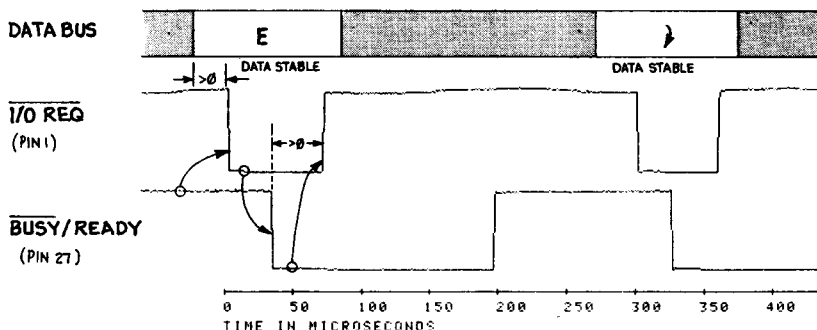

Figure 7.3 I/O REQ and BUSY/RDY timing diagram.
Note that above each I/O REQ strobe, the ASCII character being transferred is shown on the bus. There are eleven characters transferred to the CY525 in approximately 3300 microseconds. As may be seen the spacing is very regular, therefore the transfer time per character is about 300 microseconds. These times are for an 11 MHz crystal and should be scaled by $f/11$ for a crystal of frequency f . If we expand the timing diagram above and look at the first transfer only, we see that the CY525 actually completes the transfer of the character (E) and returns to the READY state within 200 microseconds. The extra 100 microseconds before the I/O REQ is pulled low (to signal the $\downarrow$ on the bus) is actually delay caused by the master computer used in this example. If a faster computer were used, this could be decreased so that the minimum character transfer time of 200 micro-seconds per character is approached. This timing is shown below in figure 7.3.